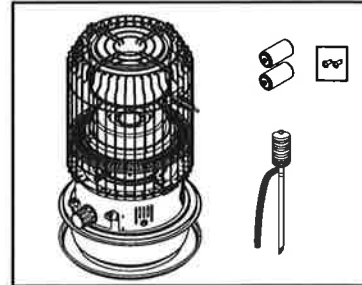

Fig. 2
1. REMOVE THE HEATER AND ALL PACKING MATERIALS FROM THE BOX. (Fig.2)